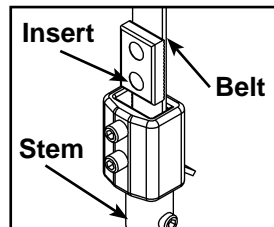
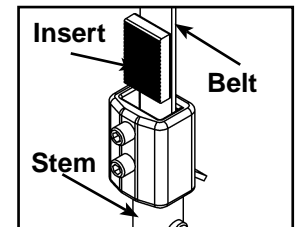

Figure 11A
Figure 11B
- D. Verify belt and insert are installed properly, as shown in Figure 11A. **NOTE:** Do not install the insert backwards as shown in Figure 11B.